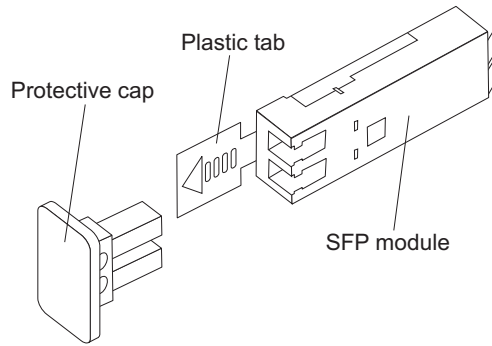

Figure 26. SFP module and protective cap
2. Remove the protective cap from the SFP module, as shown in Figure 26 on page 50. Save the protective cap for future use.
2. If necessary, remove the protective cap from the SFP module, as shown in Figure 26 on page 50. Save the protective cap for future use.